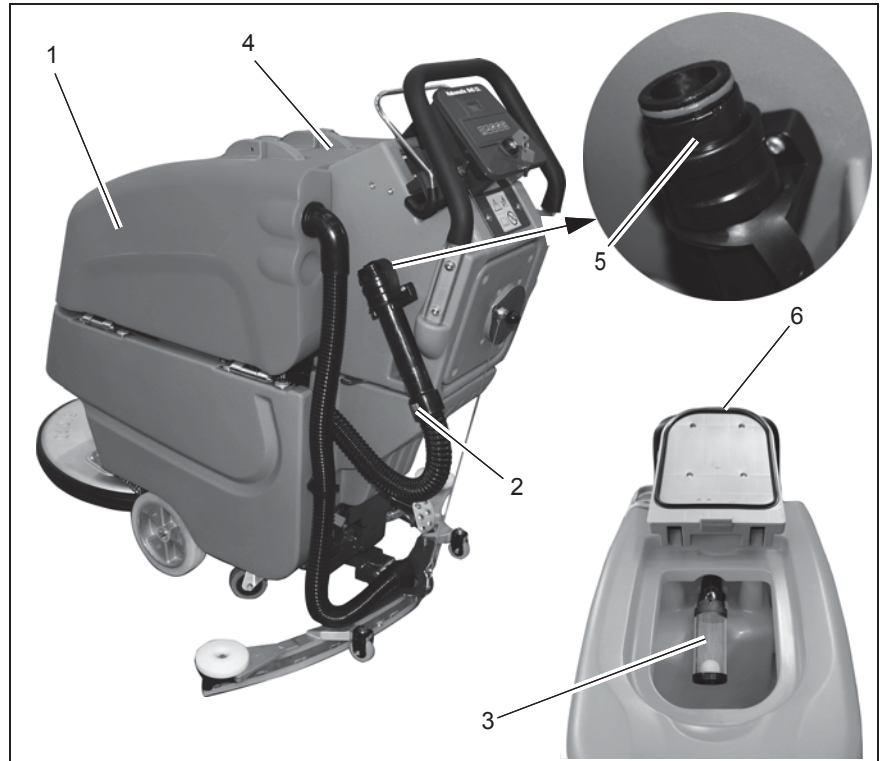

Fig.13
Clean soiled water tank (Fig. 13/1) at daily intervals, as required or upon acoustic signal (increased suction turbine speed).
4. Take drain hose (Fig. 13/2) from holder. Bend the drain hose in the front area.
Clean soiled water tank (Fig. 13/1) at daily intervals or as required.
2. Open tank lid (Fig. 13/4) of the soiled water tank.
3. Take drain hose (Fig. 13/2) from holder and empty soiled water tank completely.
Check suction filter (Fig. 13/3) for function at daily intervals and clean if required. The suction filter is clipped and can be easily removed.
Check the functionality of the draining valve (Fig. 13/5) daily and change it after 125 operating hours at the latest. Remove the draining hose from the holder. Turn the draining valve 90° and pivot away from the draining hose. Grease the new seal and pin with Molykote.
Check the functionality of the seal in the tank cap (Fig. 13/6) daily and change it after 125 operating hours at the latest.